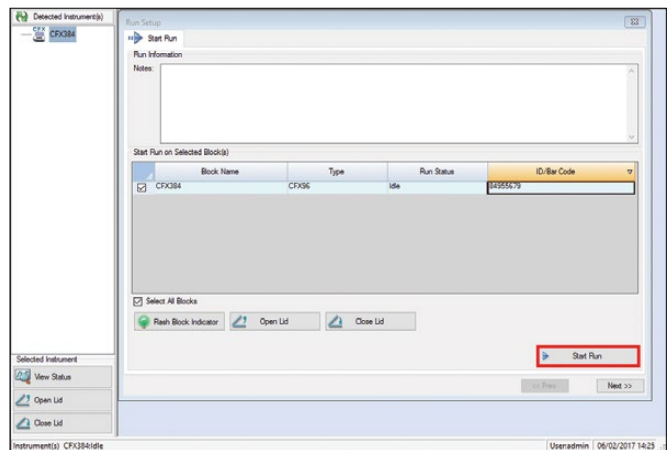

Fig. 2. Selecting Start Run in the Run Setup window.
7. Enter the plate's barcode number and click **Start Run** (Figure 2).